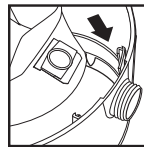

FIGURE 24
31. Slide the inlet deflector with the filter bag attached into the deflector guide. **FIGURE 24.**